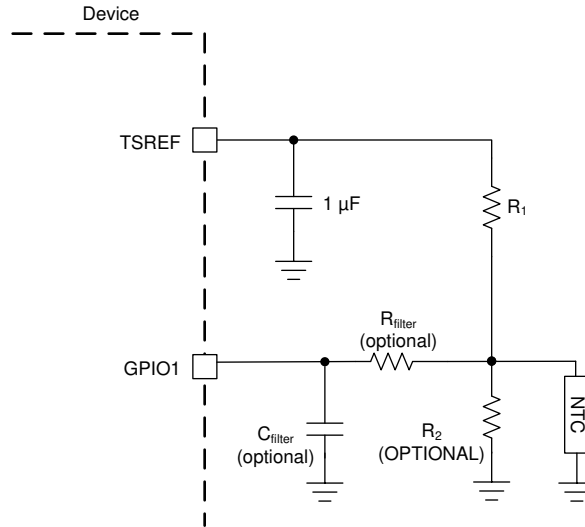

Figure 8-3. Thermistor Connection
Figure 8-3 shows the thermistor circuit when GPIO is enabled for thermistor measurements. MCU ensures TSREF is enabled by setting $CONTROL2[TSREF_EN] = 1$ and settled before taking the measurement value.
- $R1$ is the pull-up resistor as shown in Figure 8-3 with the assumption the $R2$ is not used